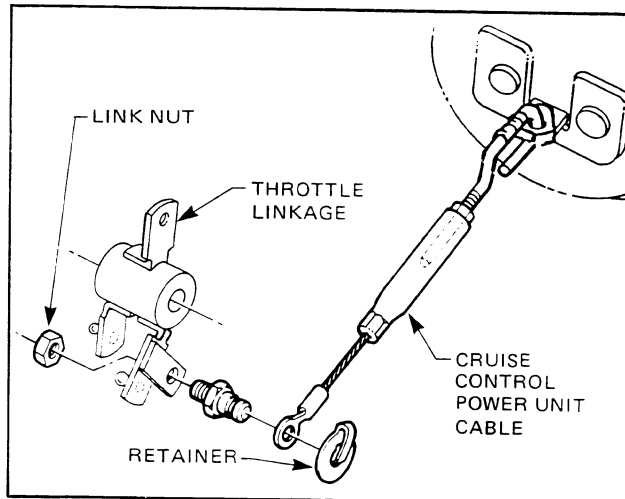

Figure 6C-83
6. Disconnect wiring harness connectors from the throttle position switch, idle load compensator if fitted, coolant temperature sensor, injectors and generator. Refer Fig. 6C-84.